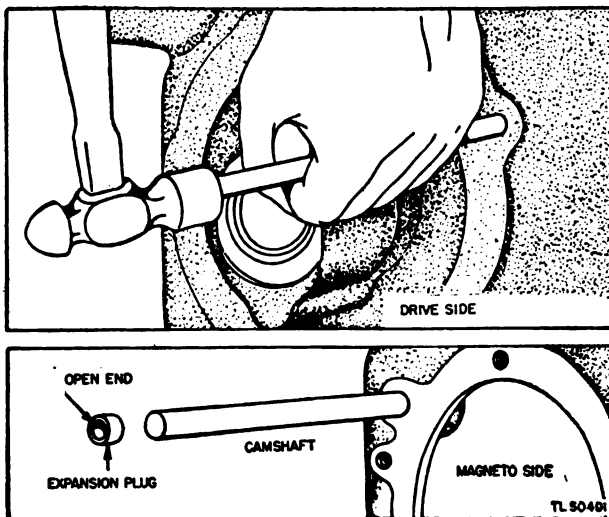

Figure 70. Removing camshaft.
(1) Use a blunt punch, and force the camshaft out from the drive side of the engine as shown in figure 70. The cam gear will then be free for removal from the crankcase.
(2) Be sure not to get burrs on the end of the shaft. After removal, check the camshaft for wear. Standard camshaft diameters are 0.37315-inch maximum, and 0.37285-inch minimum.
b. REPLACING CAMSHAFT. (1) Insert the camshaft through the hole in the magneto side of the engine far enough to permit sliding the cam gear into position.